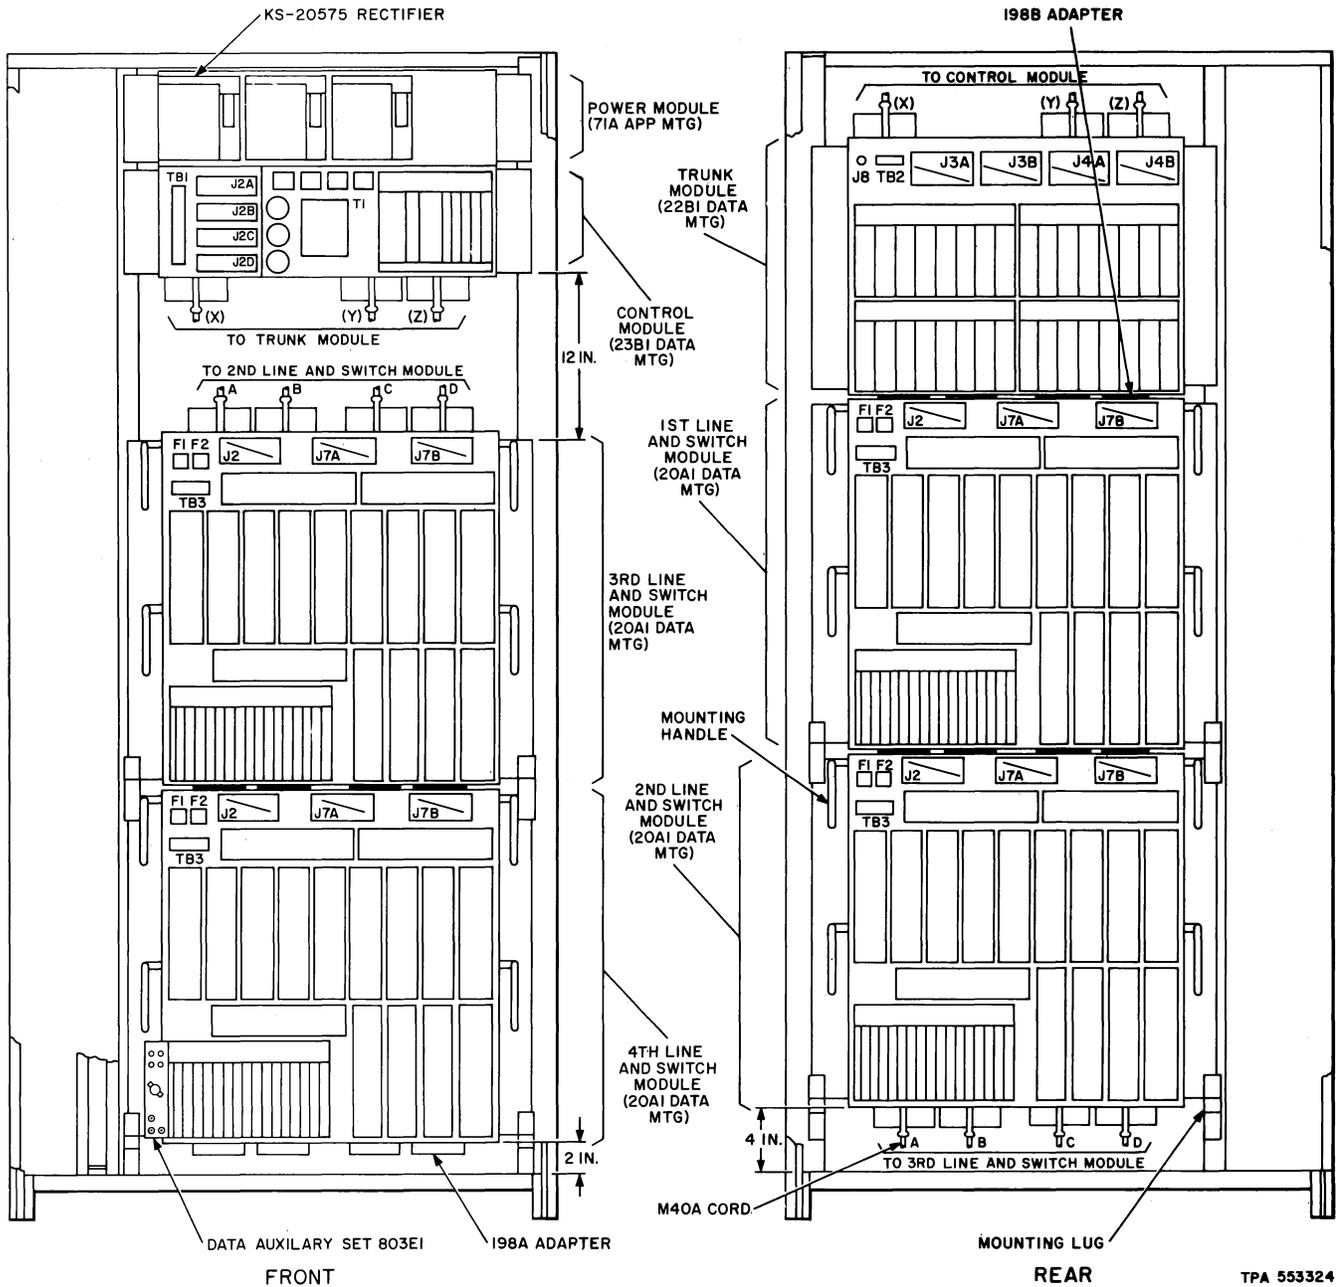

Fig. 1—10B Data Line Concentrator (132 Lines/32 Trunks)
1.01 This section covers the installation and connection procedures for the 10B Data Line Concentrator. A typical arrangement of a 10B Data Line Concentrator of 128 lines and 32 trunks when installed in a KS-20093-L1 cabinet is shown in Fig. 1. In the following text, the 10B Data Line Concentrator will be referred to as the "concentrator" and the word "module" will refer to a data mounting (or apparatus mounting) equipped with its associated circuit packs (CP).